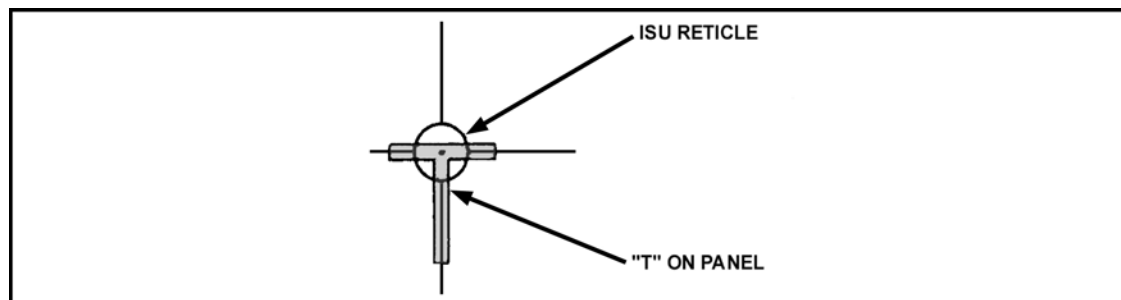

Figure B-49. ISU reticle aligned with "T."
(1) Move sensor select switch to NIGHT.
(2) Use black hot to make the ISU reticle more visible on the "T" of the panel, so set the polarity switch (PLRT) to that (black hot--BH).
(3) Adjust the thermal sight until you can see the "T" clearly:
(4) Align the ISU reticle with the "T" on the panel using the night boresight EL and AZ knobs (Figure B-49, page B-36).